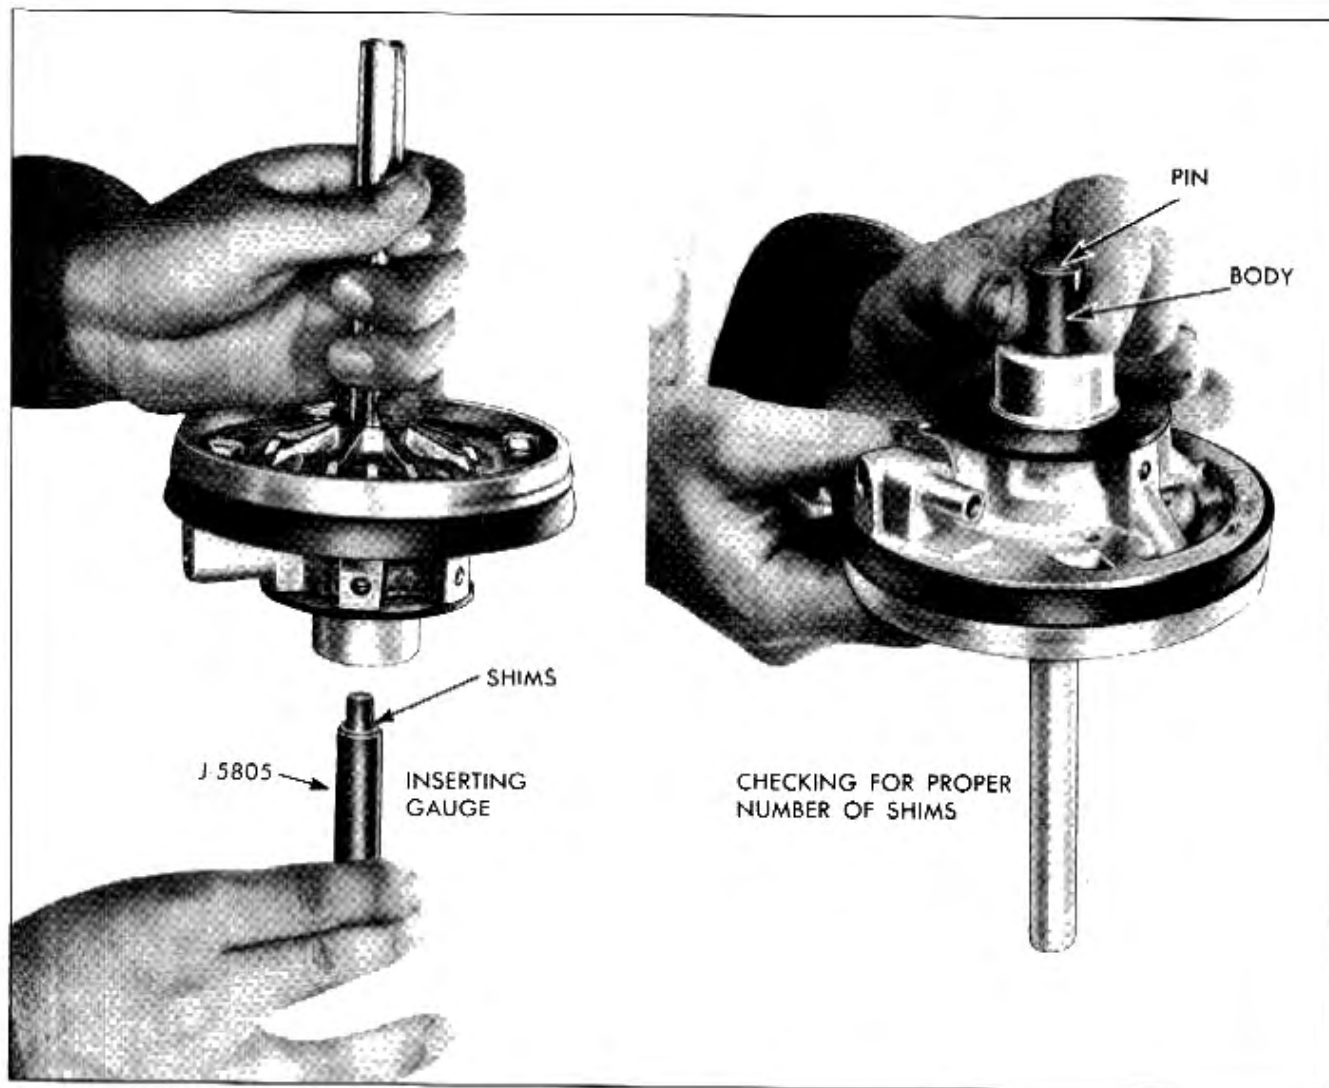

Fig. 5-69 Air Valve Shim Check
6. Place same number shims that were on air valve, on Tool J-5805. Invert power piston and insert gauge into bore of power piston (Fig. 5-69). Shims and body of gauge will rest on valve plate and pin will extend through hole in valve and rest on end of master cylinder plunger. Turn power piston over so gauge is on top (Fig. 5-69) and check position of pin in gauge body. Pin should be flush or slightly above gauge body. Remove or add shims until pin is flush or slightly above gauge body. Removing of shims will raise pin in gauge body and adding shims will lower pin in gauge body.